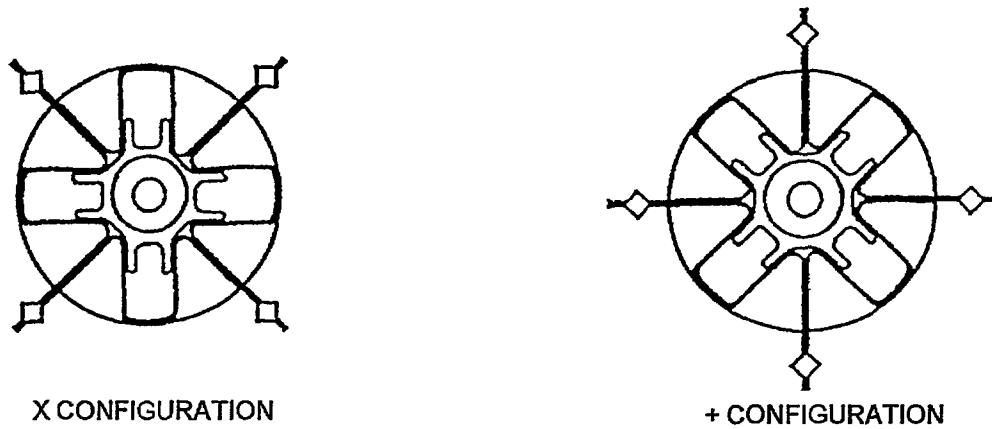

Figure 4-19A. MAU-91A/B Fin Orientation
- d. Referring to Table 4-19A, Figure 4-19A, and master record sheet (MRS), verify that fins are positioned as required.